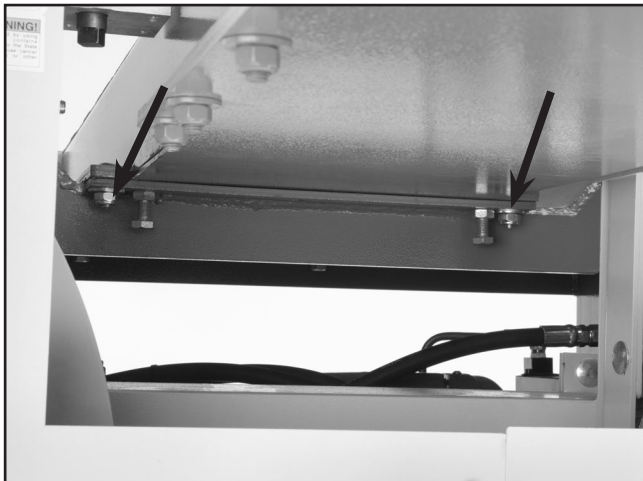

Figure 10. Conveyor washer/nut placement.
5. Look under the conveyor for the carriage bolts shown in **Figure 10**. Place the flat washers and lock nuts on the carriage bolts and tighten.